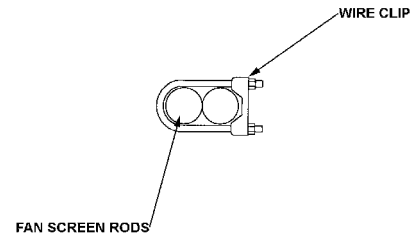
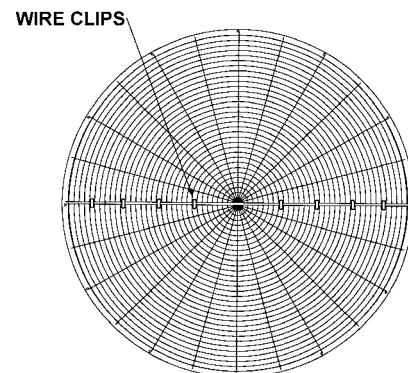

Figure 17 - Wire Clip Arrangement.
Figure 18 - Wire Clip Spacing.
3. Join the two screen halves with wire clips (Figure 17). There should be 4 wire clips on each side of the fan screen. Space the wire clips evenly across the radius of the fan screen as shown in Figure 18.
3. Join the two screen halves with wire clips (See Figure 17). There should be 4 clips on either side of the fan screen. Space them evenly as shown in Figure 18.